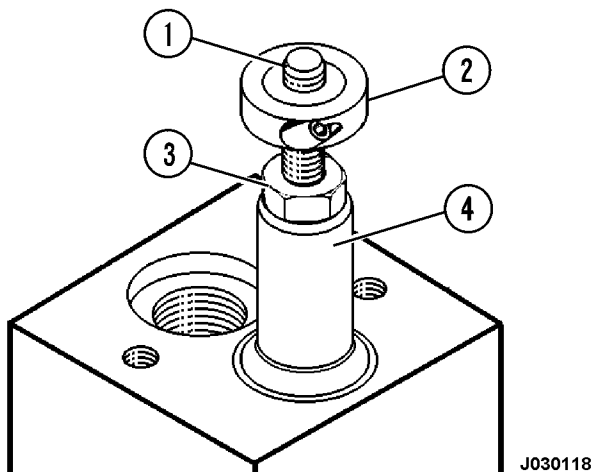

FIGURE 3-8. ADJUSTMENT COLLAR
20. Screw the adjustment collars (2, Figure 3-8) onto the top of the actuation plungers. Screw all the way down until they bottom on the threads.